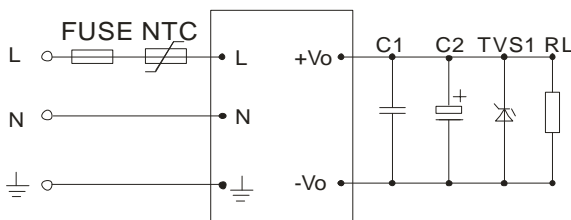
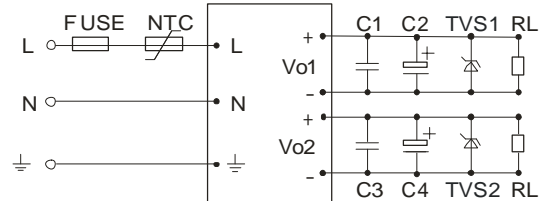

figure 1: LH**-10B**ER2(Single output)
figure 2: LH**-10D**ER2(Isolate Twin Output)
- For standard EMC requirement, please refer to figure 1 or figure 2, if higher EMC requirement ,please refer to figure 3